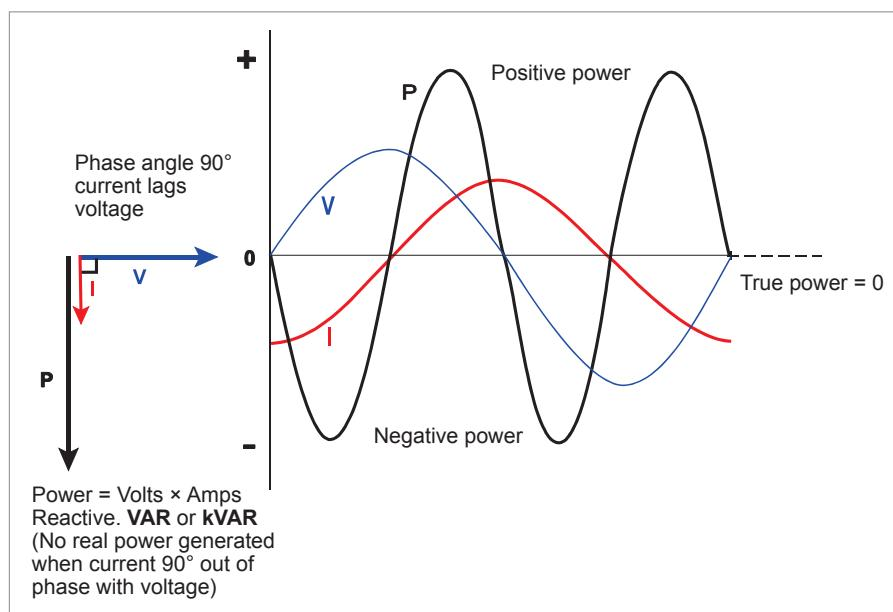

Figure 11.16 Power in a purely inductive circuit
*Figure 11.16* shows a purely inductive circuit where the current 'lags 'the voltage by  $90^\circ$ . It can be seen that by plotting instantaneous values of current  $\times$  voltage we can obtain the waveform of instantaneous power.